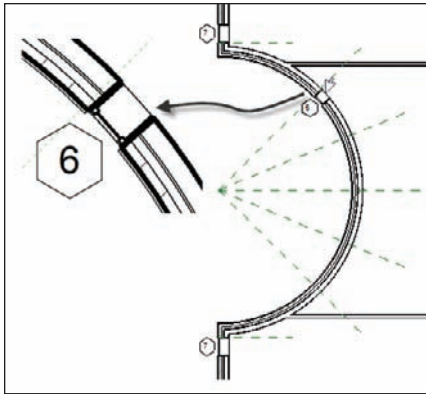

FIGURE 4.28 Place the window approximately in the area shown here.
1. Zoom in on the radial portion of the west wall, as shown in Figure 4.28.
4. Place the window in the radial wall in a similar location to Figure 4.28. Do not attempt to “eyeball” the center of the window with the reference plane. As a matter of fact, purposely misalign the window, as shown in Figure 4.28.